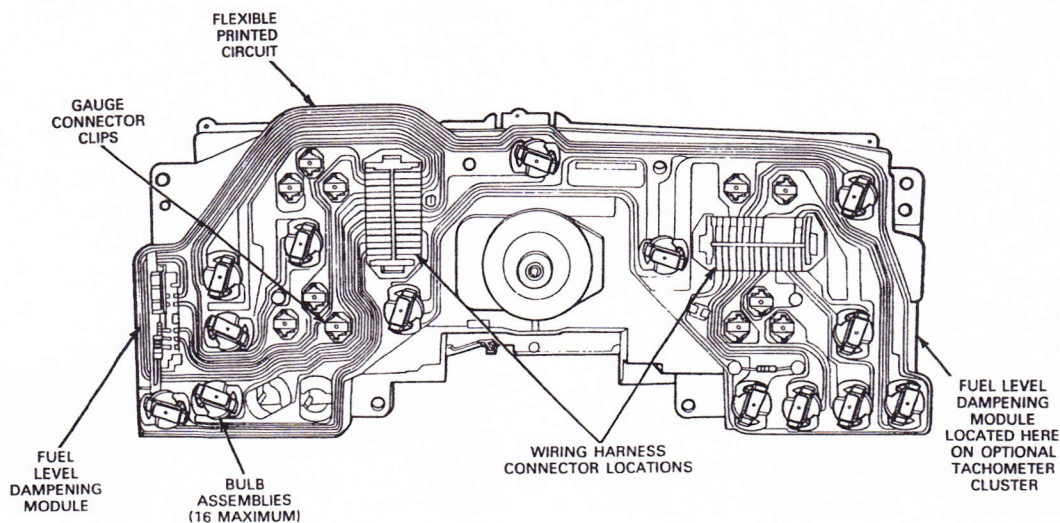

FIGURE 14-48 Typical printed circuit board.
**Printed Circuits** Many late-model vehicles use flexible printed circuits (Figure 14-48) and printed circuit boards. Both types of printed circuits allow for